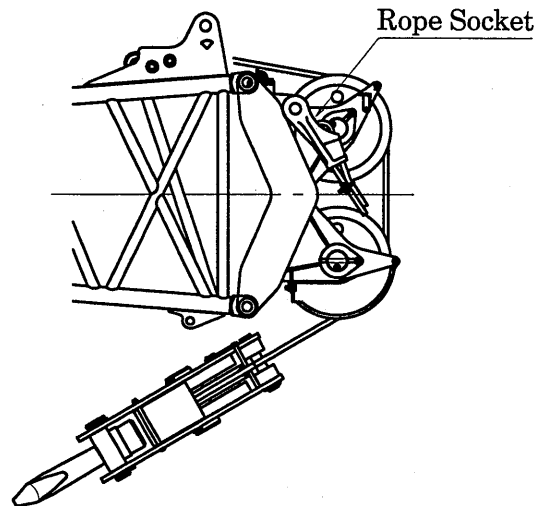

Fig. 11-5
(5) Fix the wire rope end to the mounting section of the auxiliary sheave tip with the rope socket. (Fig. 11-5)